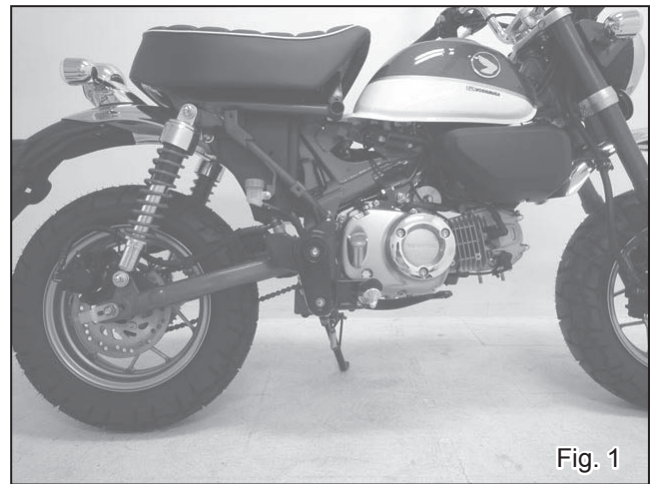

Fig. 1
- 2) According to HONDA service manual, remove stock exhaust system. (See Fig. 1)